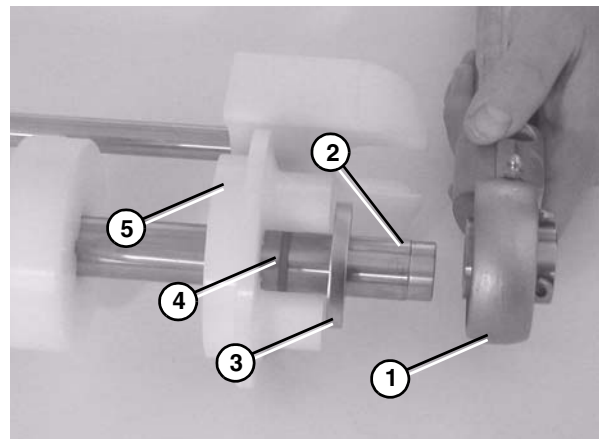

Figure 69
- Slide off bearing shaft assembly (**Figure 69, item 1**), washer (**Figure 69, item 3**), O-ring (**Figure 69, item 4**), and flanged puck (**Figure 69, item 5**) off of the idler shaft (**Figure 69, item 2**).